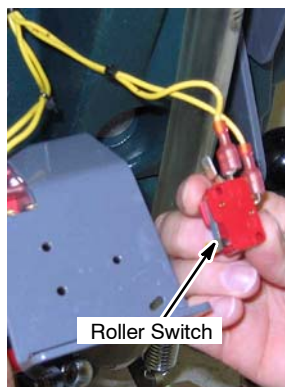
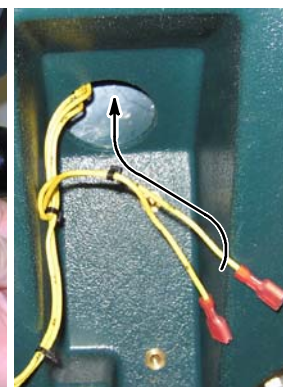

Fig. 5a
Fig. 5b
5. Remove roller switch from squeegee lift bracket and disconnect wires from switch (Fig. 5a). Route the two yellow wires up into the control console (Fig. 5b).